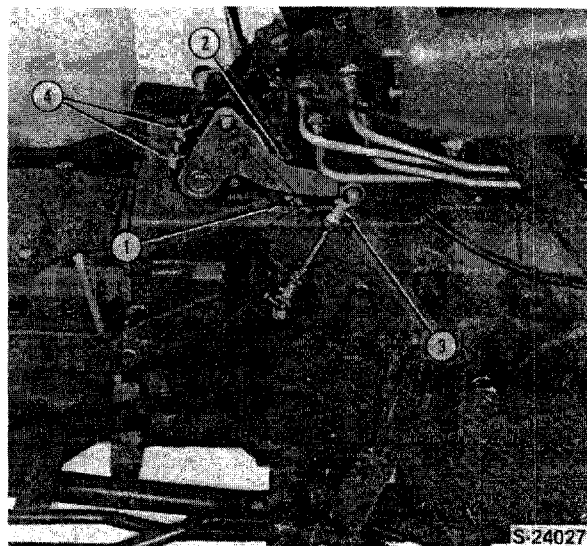

Figure 22
7. Disconnect the hydrostatic control rod (1), Figure 22, from the HST lever (2).
8. Disconnect the HST control rod (3), Figure 22, from the linkage lever.
10. Remove the two HST test port pipes (4), Figure 22.